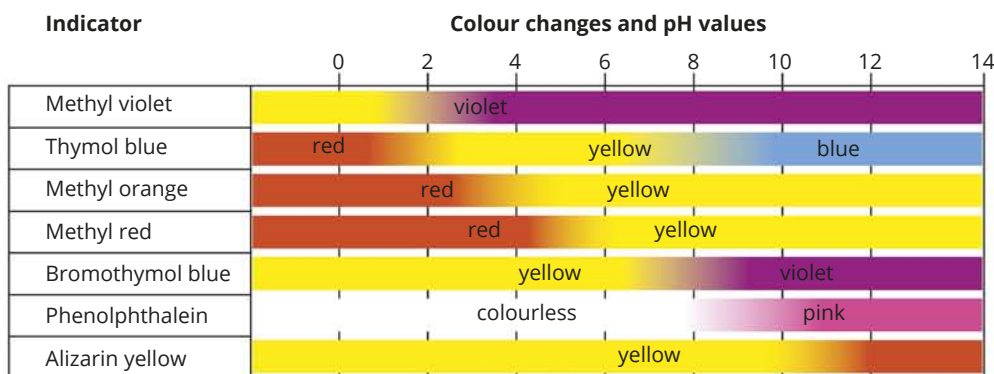

FIGURE 20.4.4 The colours of common indicators at different pH values.
Other common laboratory indicators include bromothymol blue and phenolphthalein. The colours of indicators are usually intense and highly visible, even at low concentrations of the indicator in solution. As Figure 20.4.4 and Table 20.4.3 show, different indicators change colour over different pH ranges.
- 2 Five test-tubes each contain the same solution, which has a pH of 5. A different indicator is added to the solution in each test-tube, as shown in Table 20.4.4. Use the indicator colour chart in Figure 20.4.4 on page 531 to find the colour of each solution after the indicator was added.